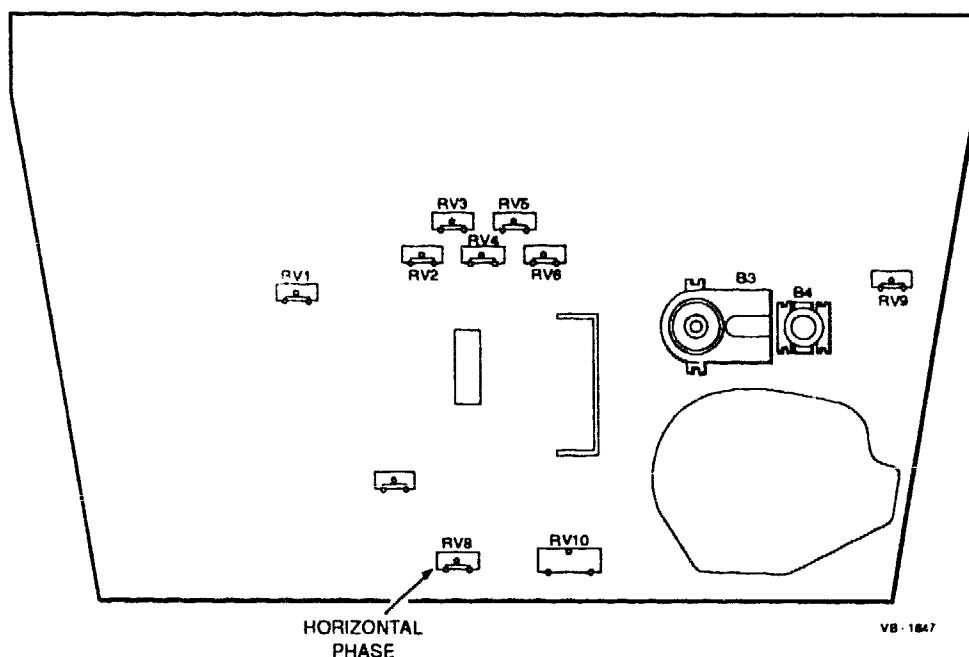
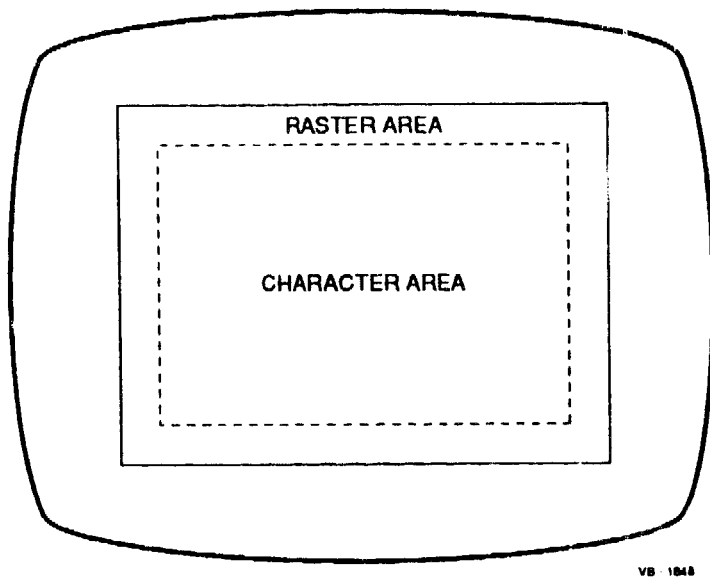

Figure 4-2 Monitor Board Trimmer RV8
Figure 4-3 Raster/Character Area
5. Adjust trimmer RV8 on the monitor board (Figure 4-2) to bring the character area to the center of the raster area (Figure 4-3).